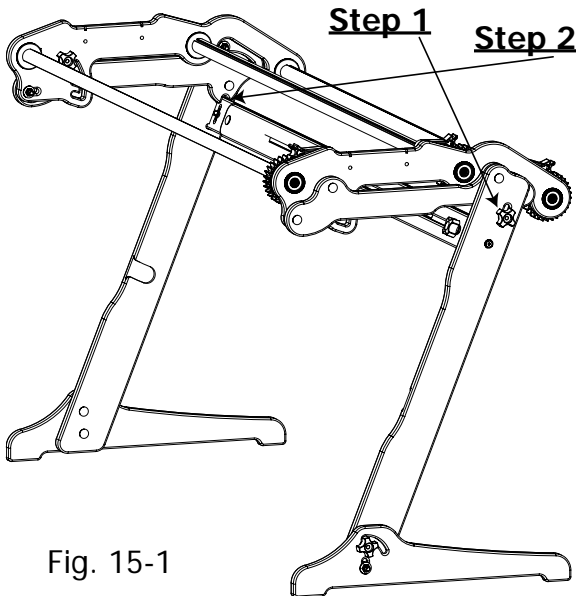

Fig. 15-1
- Frame must not be tilted when it is to be folded, as show in Fig. 15-1
- ⚙ **Step 1:** Loosen knobs outside on both sides of frame. (As seen in Fig. 15-1)
- ⚙ **Step 2:** Lift at joint until top releases. (As seen in Fig. 15-1)